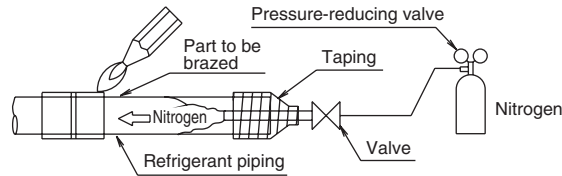

Fig. 5
- 2 When feeding nitrogen into the pipes while doing the brazing, the pressure-reducing valve should be set to 2.9psi. **(Refer to Fig. 5)**